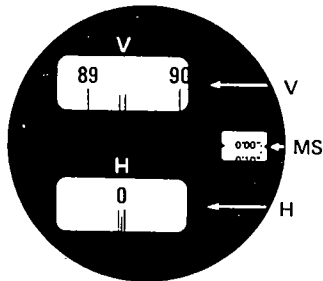

Fig. 12
(1) Horizontal and vertical circle reading
Open the reflector ⑥. Turn the micrometer eyepiece ⑦ to focus on the graduations. Three windows are seen. See Fig. 12. The upper window marked V is for a degree of zenith angle. The lower window marked H is for a degree of horizontal angle. The small window on the right is for minutes and seconds of the both angles, and is thus known as MS window.